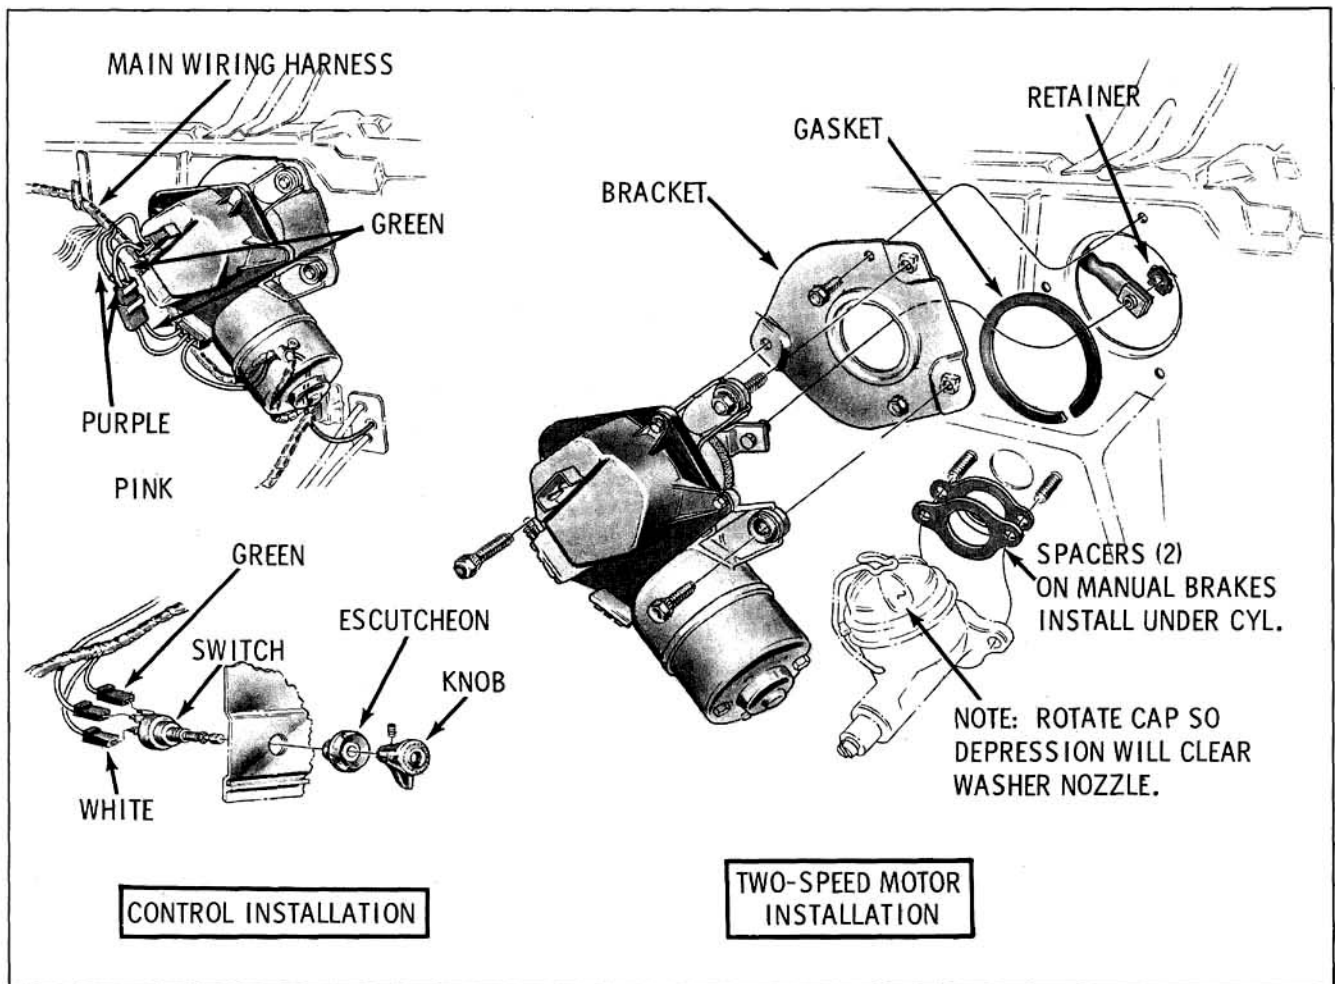

Fig. 13-177 Wiper Mounting (33-34-35-36 and 3800 Series)
3. On 33, 34, 35, 36 and 3800 series, remove cowl vent grille and remove the transmission to crankarm retainer. (Fig. 13-177) On 52, 54, 56, 58, 66, 84 and 8600 series, an access